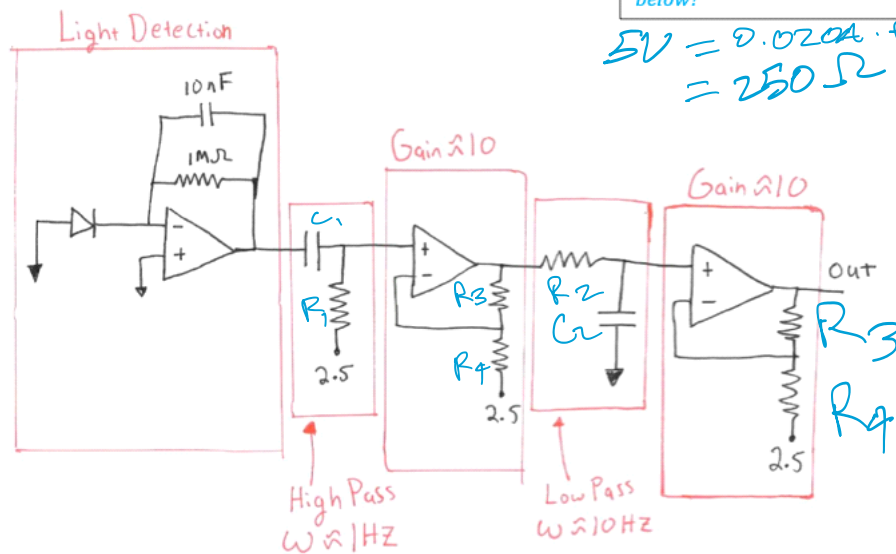

Figure 1: Circuit to measure the variation in light intensity through your finger.
- 1) Your final circuit schematic, i.e. a copy of Figure 1 but with your final values selected. You can hand sketch it. Include the resistor values on the schematic. Include the actual cutoff frequencies and amplifier gains. You can sketch the circuit, but it should be neat enough that someone else in the class could build the circuit off your drawing.
Design and build your circuit using Figure 1. Please note that there is no single "right" answer. Anything close to the specified functional range should work just fine. You could try a few values for each unknown component and see how the circuit behaves and what you like best.
Here is an example using Ch2+for V_{out} . The circuit uses the Figure 1 design with two amplifiers of Gain=11 each and filters that pass signals between 1 Hz and 10 Hz.